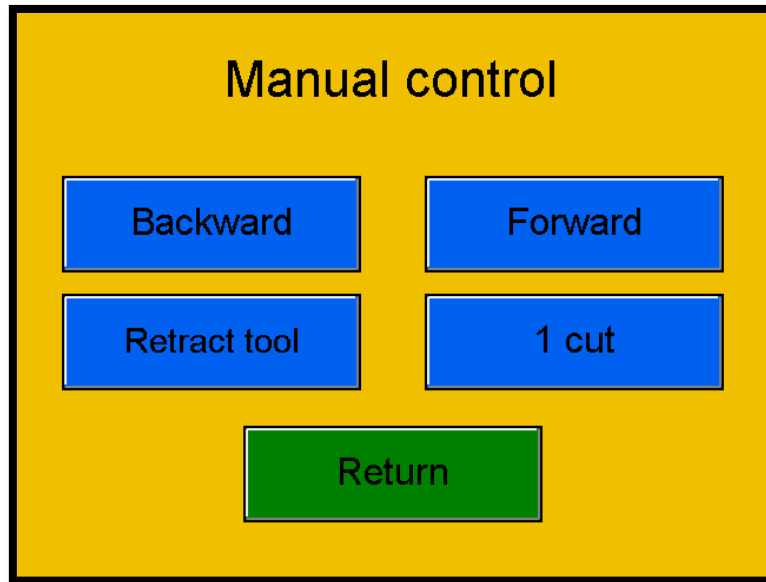

Fig. 29: The "Manual control" screen
Manual control is mostly used during exchange of tools or when loosening jammed paper from the machine. To replace the cutters in the tools loosen the tool screws (32, 33, 34, 38). Replace the cutter and fit the tool back. Tighten the tool screws (32, 33) lightly. Then place the tool into the machine and perform a trial stroke to ensure the cutter and the tool base (24) are parallel. Press the **"Manual control"** icon on the main screen and the following menu is displayed (fig. 29).